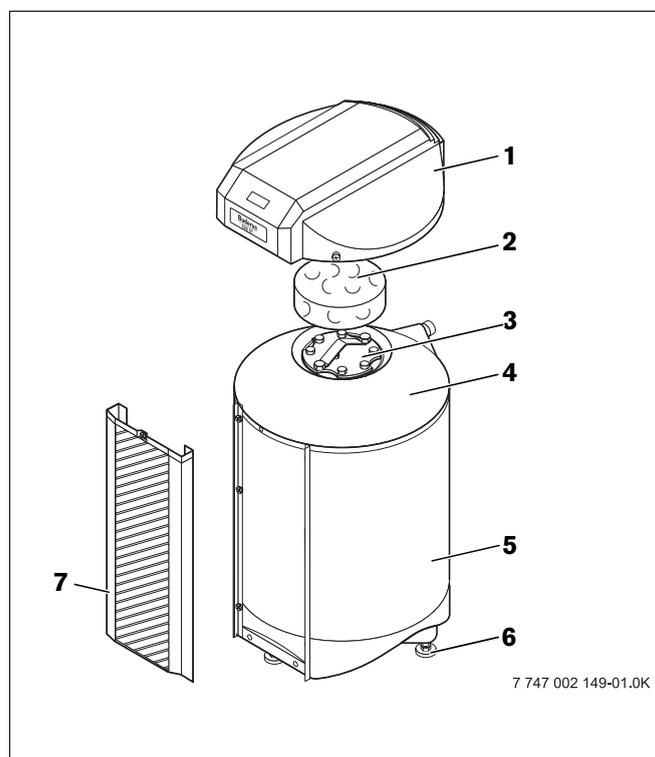

Fig. 1 Logalux ST150/2 – ST300/2 DHW tank
- Storage tank (Fig. 1, **Item 5**) with corrosion protection
The cathodic corrosion protection comprises DUO-CLEAN MKT thermo-glazing from Buderus and a magnesium anode rod mounted on the access port (Fig. 1, **Item 3**).
The removable parts of the casing are the casing lid (Fig. 1, **Item 1**) and the cable channel (Fig. 1, **Item 7**).
- Insulation (Fig. 1, **Item 4**)
The insulation made from CFC-free hard polyurethane foam is directly applied to the DHW tank. A foam insulating element (Fig. 1, **Item 2**) minimizes heat loss through the access port cover.
- Access port cover with magnesium anode rod (Fig. 1, **Item 3**)